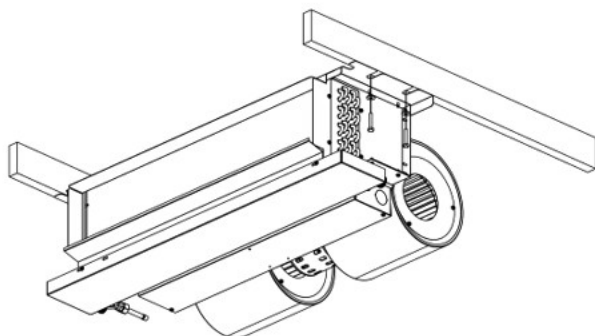

Figure 11 Structure Support with Fasteners
These units are equipped with four (4) mounting slots to facilitate secure attachment. Installers must use metal washers and nuts of the proper size, ensuring all connections are tight and stable. If mounting to wooden joists, use a minimum of 1/4-inch by 2-inch wood screws fully engaged with fender washers to secure the unit to the structure. If the mounting surface is uneven, shims must be used to achieve proper leveling, ensuring effective condensate drainage. See Figures 11 & 13.